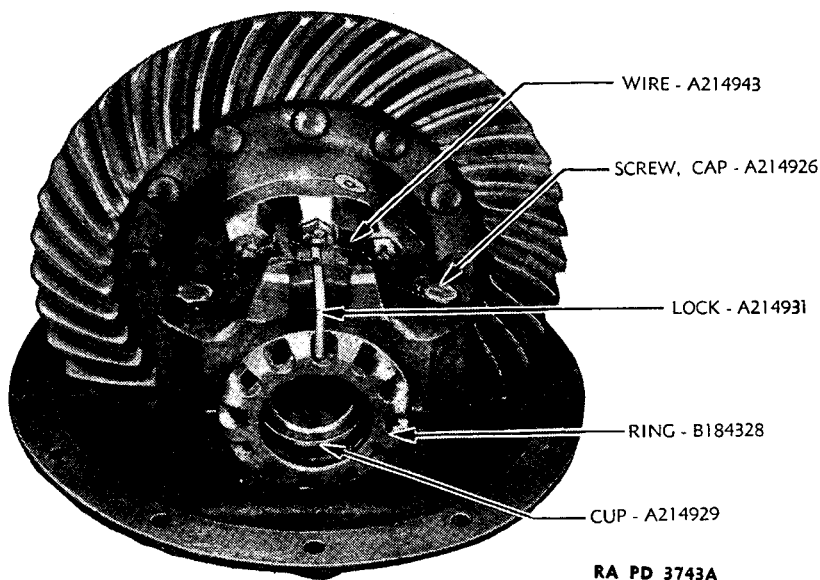

FIGURE 55.—Rear axle differential and ring gear dismounted, side view.
(1) Remove carrier assembly. Follow steps in *c*(1) through (5) above.
(2) Remove adjusting ring locks—cutting pliers. Cut locking wires (A214927) running through bearing cap bolts (A214926). Remove adjusting ring lock cotter pins (BFA2AK) and remove locks (A214931) (figs. 55 and 56).